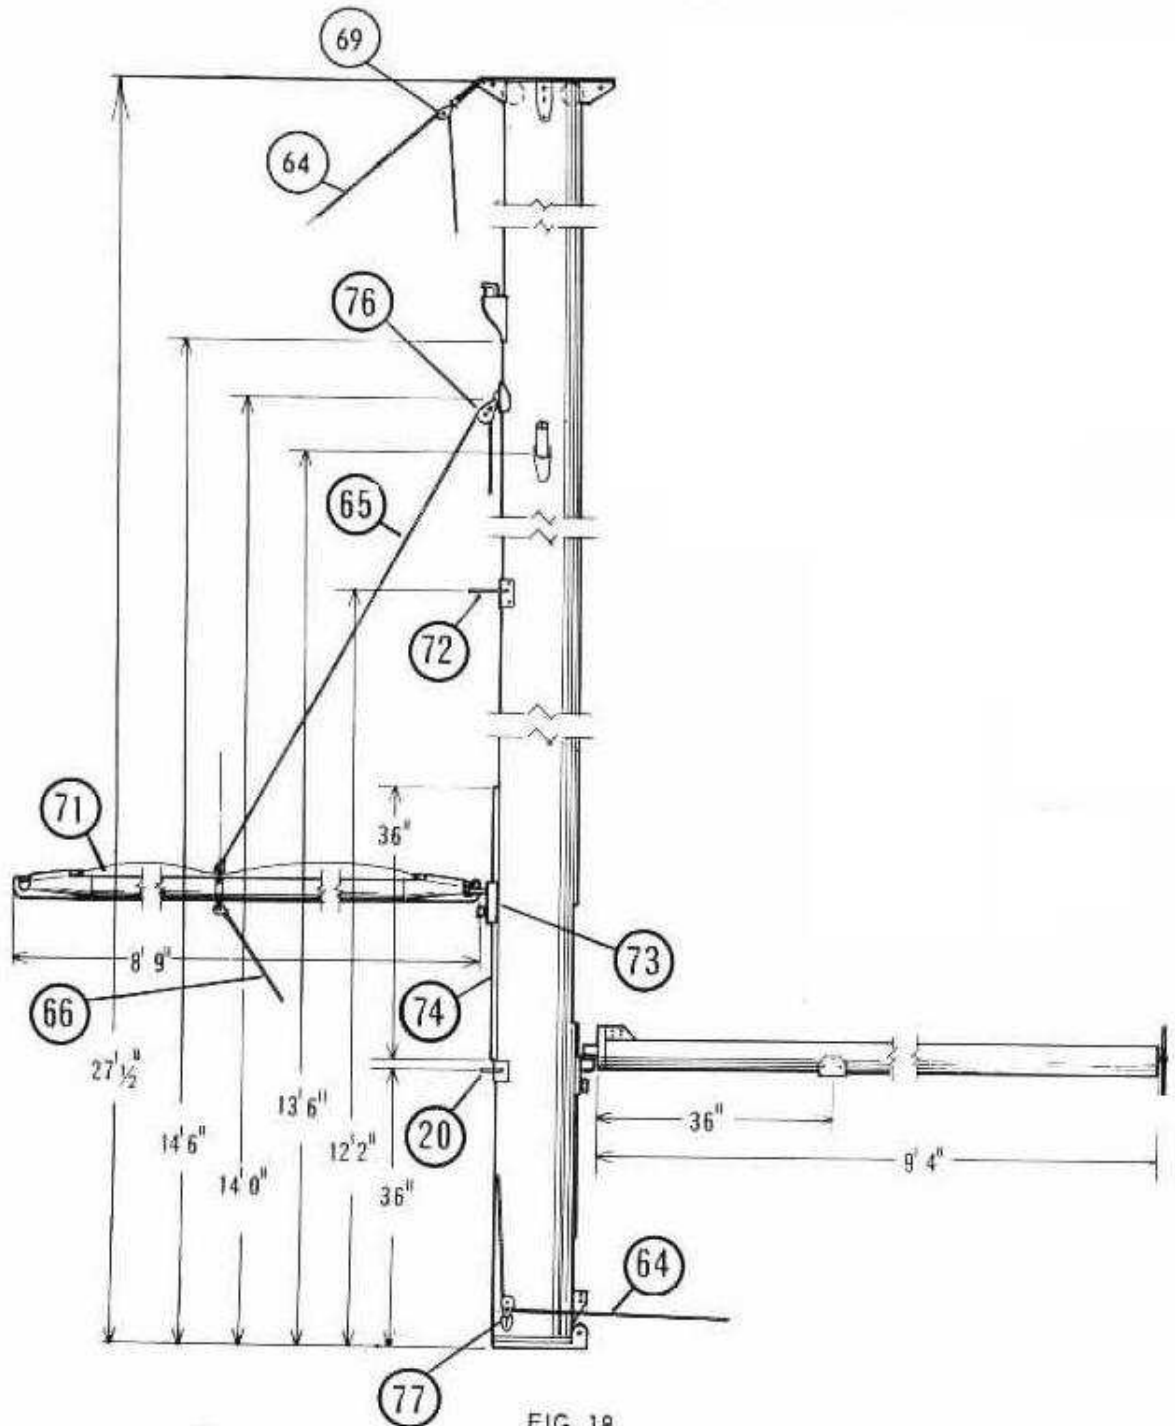

FIG. 18
If your boat is rigged for a spinnaker, the lines comprising the spinnaker halyard (64), topping lift (65) fore guy (66) , after guy (67) , and sheet (68) should be rove through the fittings provided as shown in Figs. 18, 19 & 19A.